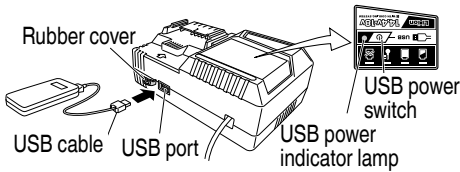

Fig. 7
- Turn the USB power switch ON (Fig. 7)
- Connect the USB cable. (Fig. 7)
- Turn the USB power switch OFF and unplug the power cord from the electrical outlet. (Fig. 7)